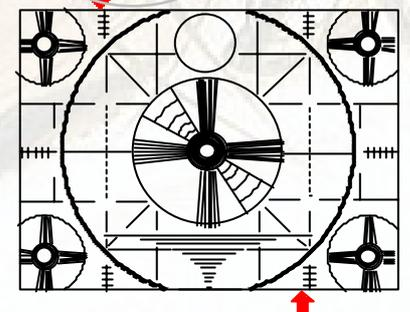

Fig.2-5 NTSC monoscope
2. Use the [VOLUME +/-] key of the jig remote control and adjust until the number of vertical scale in both top and bottom of screen satisfy the specification. (Fig. 2-5)